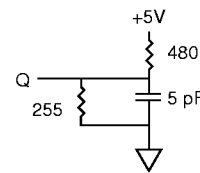

Fig. 2 OUTPUT LOAD EQUIVALENT
- tHZCE, tHZOE and tHZWE are specified with CL = 5pF as in Fig. 2. Transition is measured ±500mV from steady state voltage.